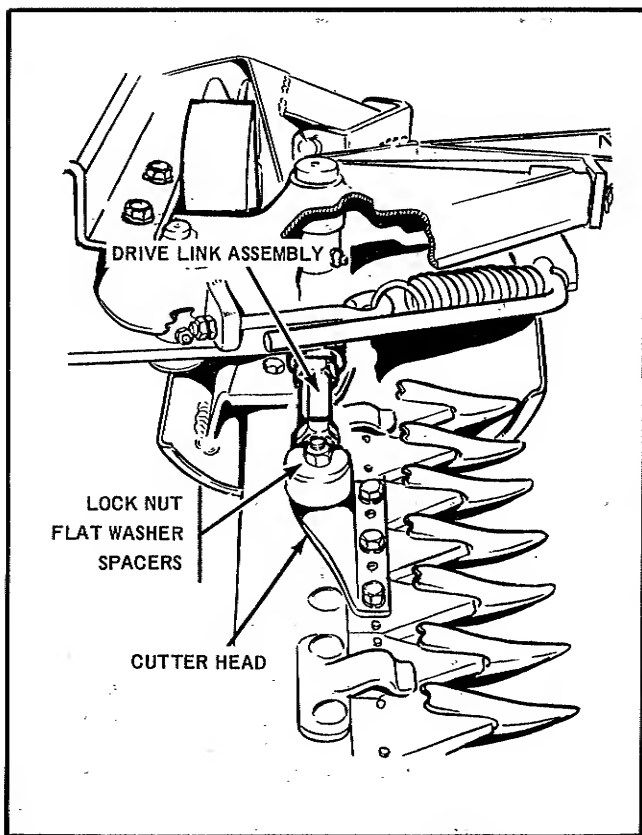

FIGURE 3
4. Connect the free end of the drive link assembly to the sickle head by means of a spacer, hex capscrew, flat washer and hex lock nut as furnished. Insert the spacer into the hole in drive link end so the head of spacer is between the sickle head and drive link. Refer to Figure 3.